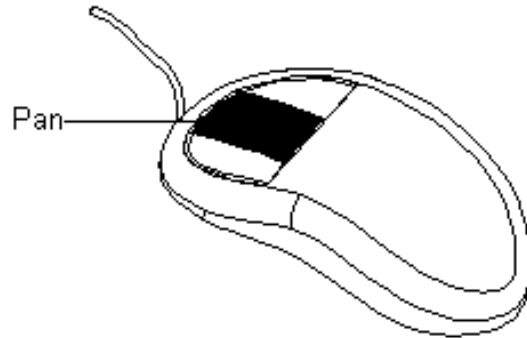

Figure 1-28 Functions of the middle mouse button in the **Sketch** mode
4. Figure 1-28 shows the functions of the middle mouse button in the 2D mode (sketcher environment and **Drawing** mode). It is used to place dimensions in the drawing area. It is also used to confirm an option or to abort the creation of an entity.